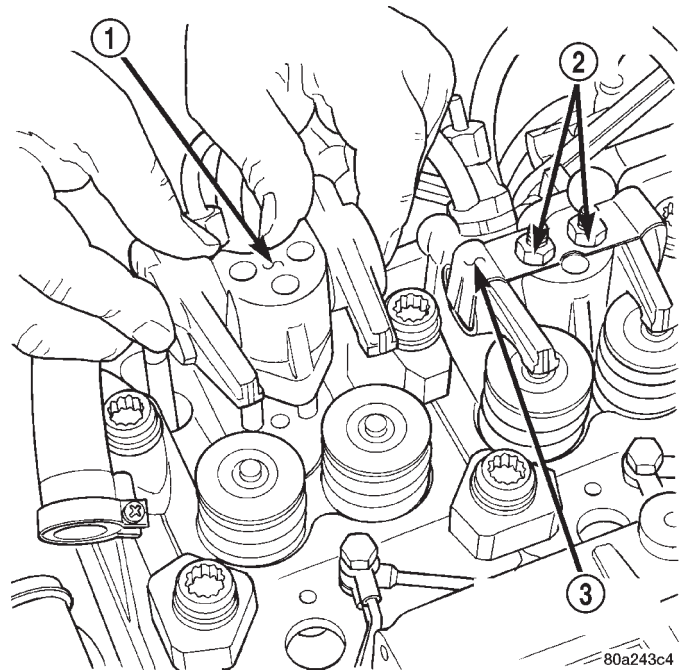
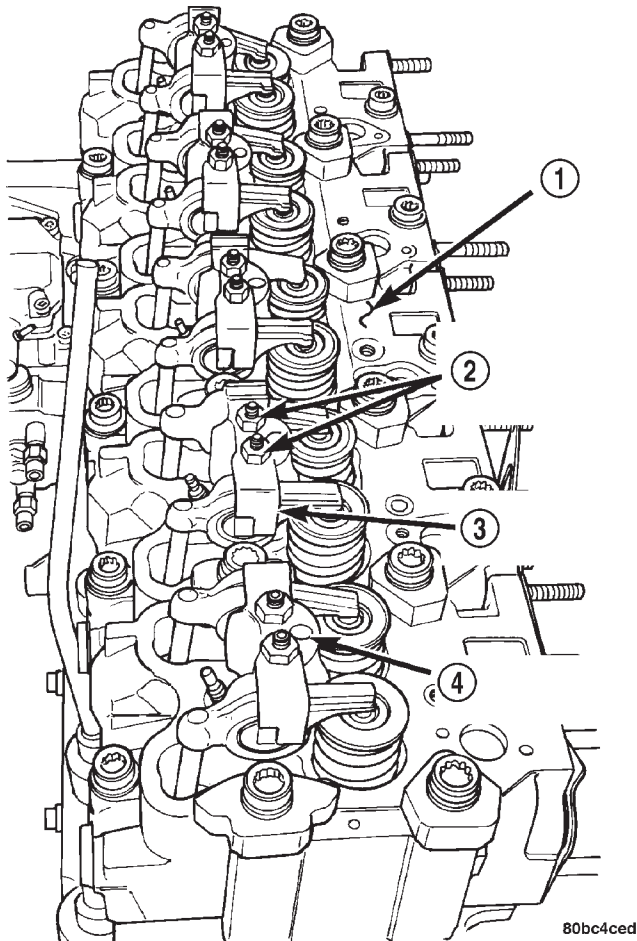

Fig. 51 Rocker Arm Retaining Nut
Fig. 52 Rocker Arm Assemblies
- (1) Disconnect the negative battery cable.
- (2) Discharge the air conditioning system. Refer to Group 24, Heating and Air Conditioning for procedure.
- (3) Remove the service valves and cap the compressor ports. Refer to Group 24, Heating and Air Conditioning.
- (4) Remove the cylinder head cover. Refer to cylinder head cover removal and installation in this section.
- (5) Remove the rocker arm retaining nut (Fig. 51) (Fig. 52).
- (6) Remove the rocker assembly. Place them on a bench in the same order as removed.
- (7) Remove the push rods and place them on a bench in the same order as removed.